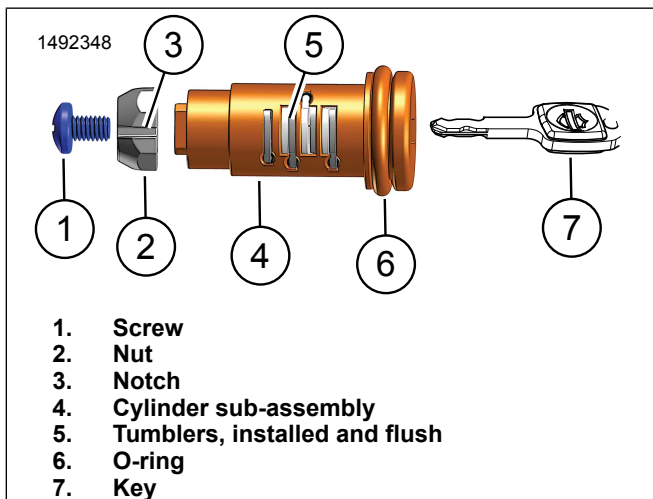

Figure 5. Assembled Lockset
- Figure 5 Install screw (1) and nut (2) to cylinder sub-assembly (4).
- Notch (3) on nut (2) should be coincident with side (A) of cylinder.
- Figure 5 Remove O-ring (6) from cylinder assembly (4).
- Figure 5 While holding tumblers fully in place, install key in assembled cylinder sub-assembly.
1. See Figure 5. While holding tumblers fully in place, remove key from cylinder sub-assembly.